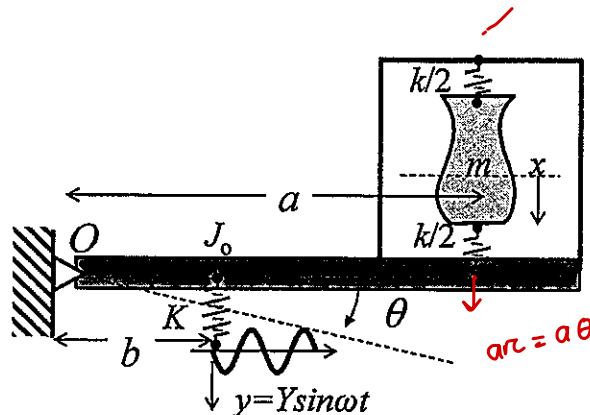

Figure 8
- (b) Figure 8 shows the box of vase (as described in Question 4(a)) now being placed on a leverage plate with spring support. This plate of a moment of inertia J_0 is pivoted at point O and supported by a spring of stiffness K at a distance b from the pivot O . The box of vase is located at a distance a from the pivot O .